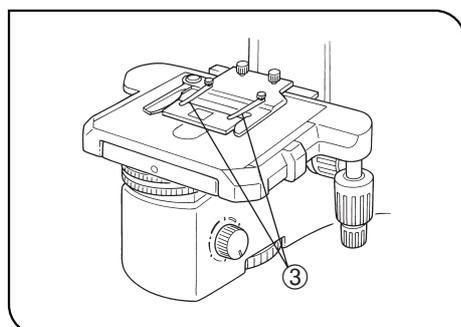

Fig. 14
Adsorption of immersion oil can cause the specimen to drift. In such cases, it is recommended to use the optional BH2-SCB-3 specimen clip ③ for oil immersion objectives. (Fig. 14)